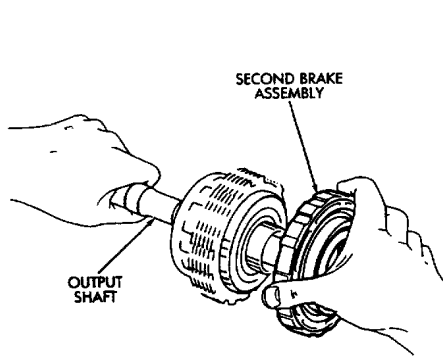

Fig. 2 Removing/Installing Second Brake Assembly69
- (1) Remove second brake drum from output shaft (Fig. 2).
- (2) Set output shaft assembly aside for overhaul. Refer to Rear Planetary Gear and Output Shaft Overhaul procedures.